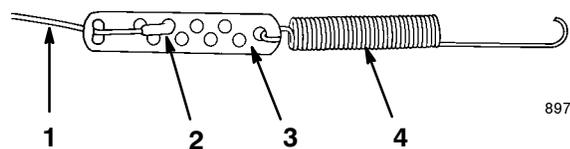

Figure 13
- C. Unhook the Z-fitting from the cable adjuster (Fig. 13) and position the Z-fitting in a higher or lower hole on the adjuster to obtain a proper gap of 1/16 to 1/8 inch (1.6 to 3.2 mm) between the control bar bracket and the handle (Fig. 4).
- C. Unhook the Z-fitting from the cable adjuster (Fig. 13) and position it in a higher or lower hole on the adjuster to obtain a gap of 1/16 to 1/8 inch (1.6 to 3.2 mm) between the control bar bracket and the handle (Fig. 5).